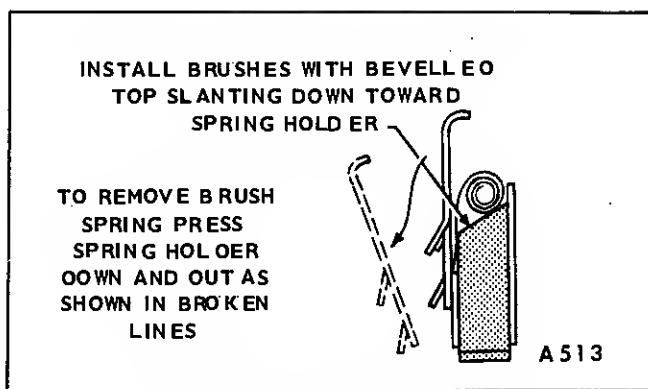

FIGURE 85. BRUSH REMOVAL
**Armature Testing:** Before testing remove all brushes from their holders (Fig. 85).
3. Remove the brush springs (Fig. 85).